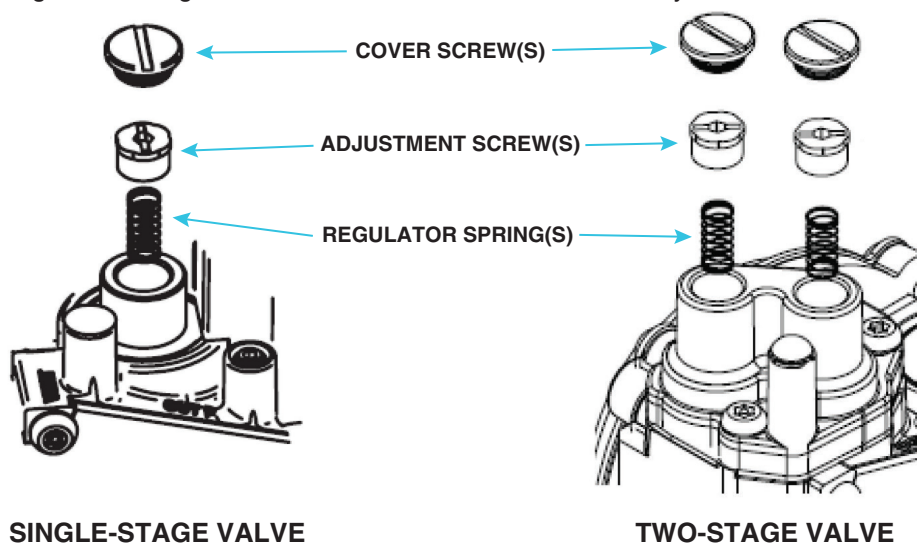

Figure 10. Combination Gas Valve Regulator Spring Replacement
8. Replace regulator springs in combination gas valve (see **Figure 10**):